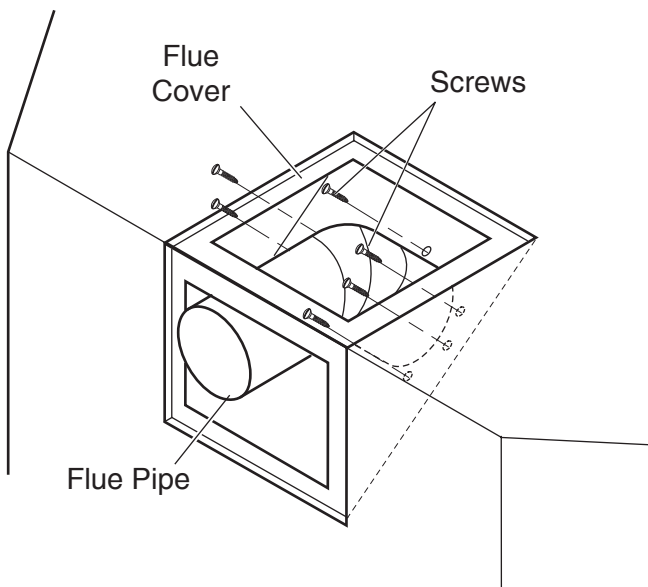

Figure 10 - Removing Flue Pipe
4. Remove six (6) screws securing the flue pipe to the back of the intake box and remove the pipe and gasket. *See Figure 10.*